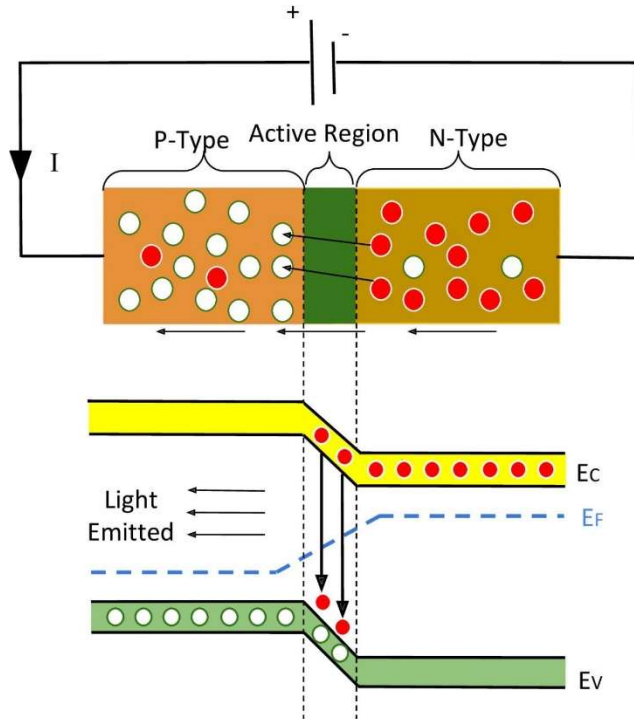

Figure 12d: LED working
1. When a forward bias is applied to the LED, the energy levels of the p and n region become aligned thus allowing the electrons and holes to cross the energy gap as shown in *Figure 12d*.